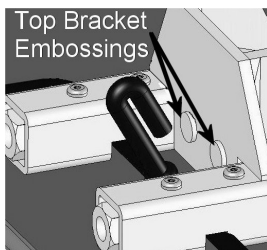
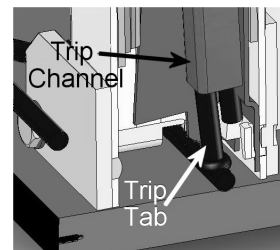

Fig. 2
Fig. 3
- 2 **ELEVATE TRIP HANDLE (#8) TO APPROXIMATELY A 45° ANGLE.** Insert Column (#4) into Top Support (#7), making sure the rectangular notches are aligned with the Top Bracket (#7) embossing (See Fig. 2). Make sure that the Trip Handle (#8) tab is in the Trip channel in the Column (#4) (See Fig. 3). Fasten using 3/4" long bolts (#9) and lock washers (#10).